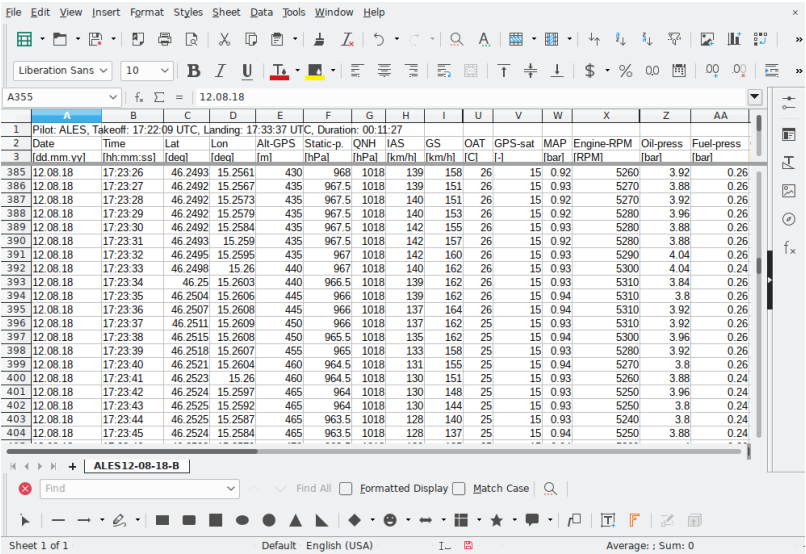

Figure 60: An example of flight details upon successful import.
6. The result of the import is then shown in Figure 60. Some column widths were adjusted and some cells were hidden.